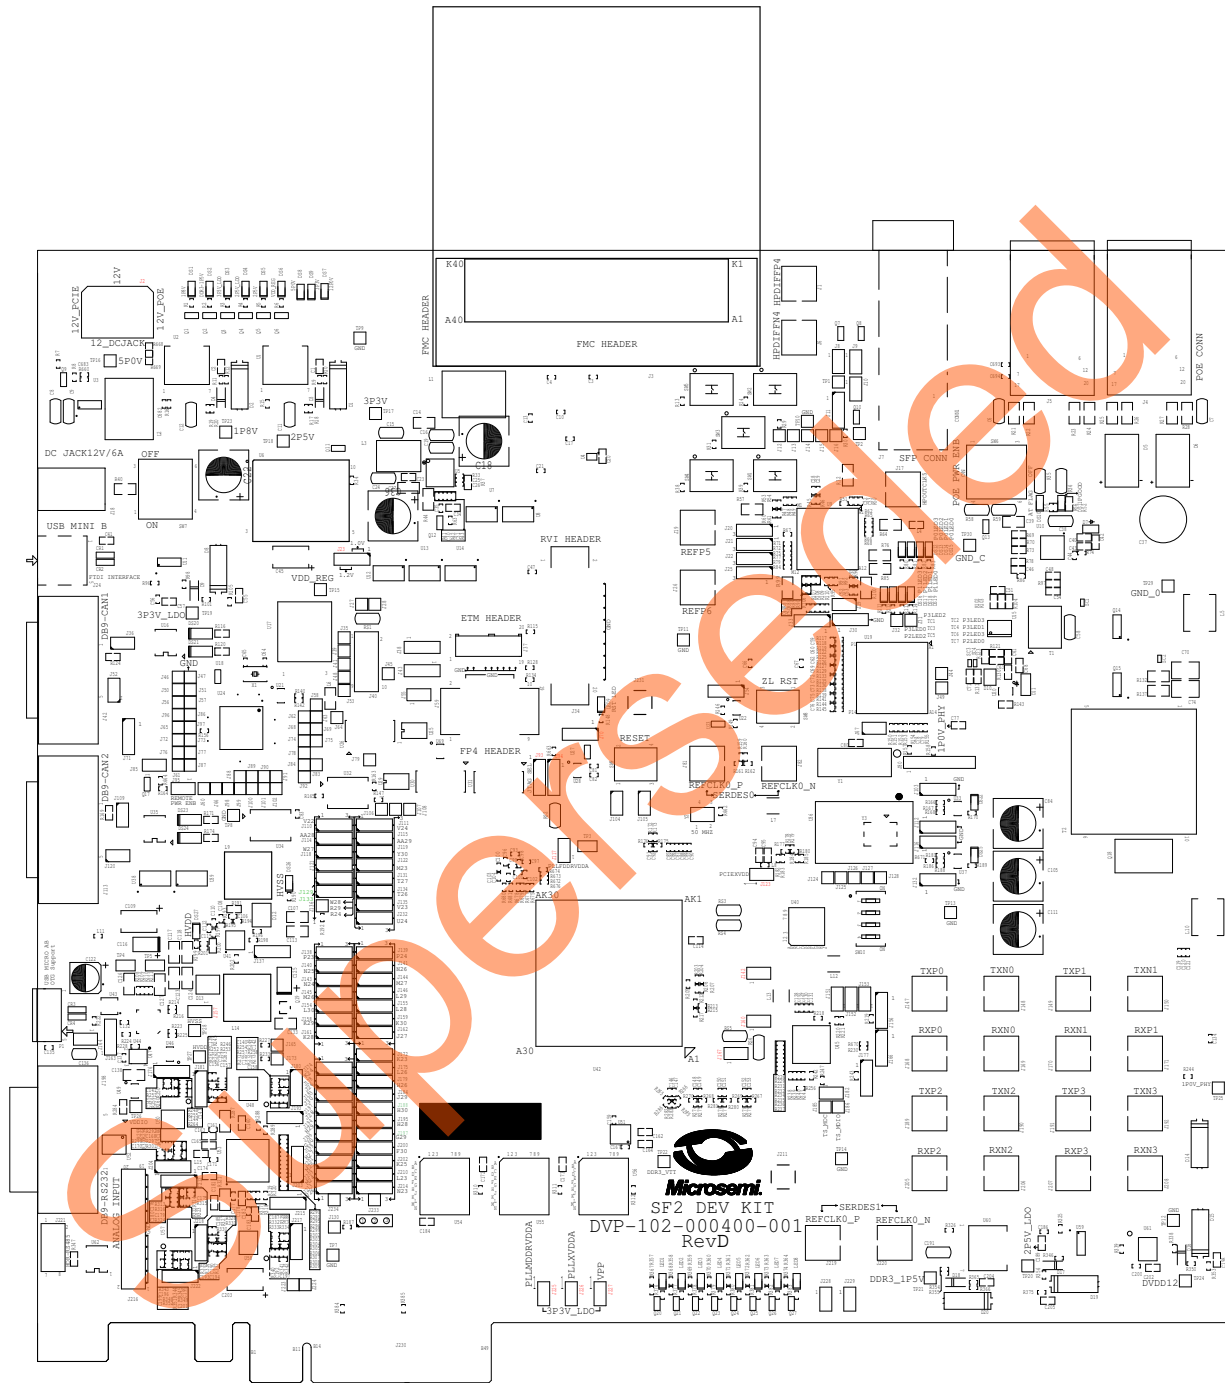

Figure 18 • SmartFusion2 Development Kit Silkscreen Top View
- Refer to Figure 18 on page 27 for the location of the jumpers. These connections are required for connecting the MMUART_1 TXD and RXD signals to the FTDI USB to UART bridge available in the SmartFusion2 Development Kit board.
Figure 18 shows the jumper locations in the Development Kit board:
- The location of the jumpers in Figure 18 on page 27 are searchable.